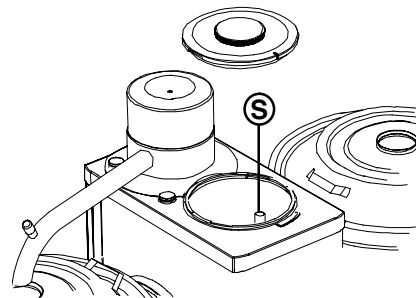

Fig. 22 Overflow pipe hot water system
- Discharge the last bit of water through the overflow pipe. For this, pull the overflow pipe (S.), that is found in the hot water boiler, up by the short hose (fig.22).
- Discharge the last bit of water through the overflow pipe. For this pull up the overflow pipe (S., fig.22 ).